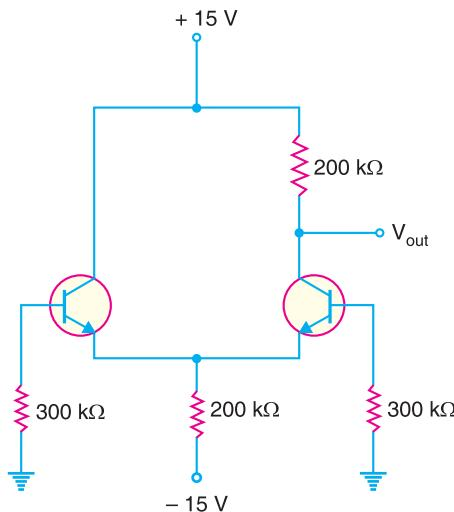

Fig. 25.97
1. In Fig 25.97, the transistors are identical with $\beta_{dc} = 200$. What is the output voltage? [7.5 V]
2. In Fig. 25.97, the left transistor has $\beta_{dc} = 225$ and the right transistor has $\beta_{dc} = 275$. What are the base voltages? [- 0.05 V ; - 0.0409 V]